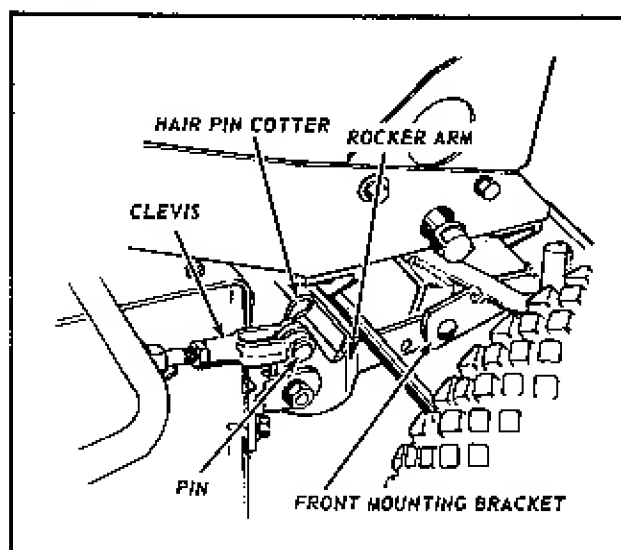

FIG. 2
2. Connect the rockers arms to front mountings brackets under the tractor, by using pins and hair pin cotters as shown in figure 2.